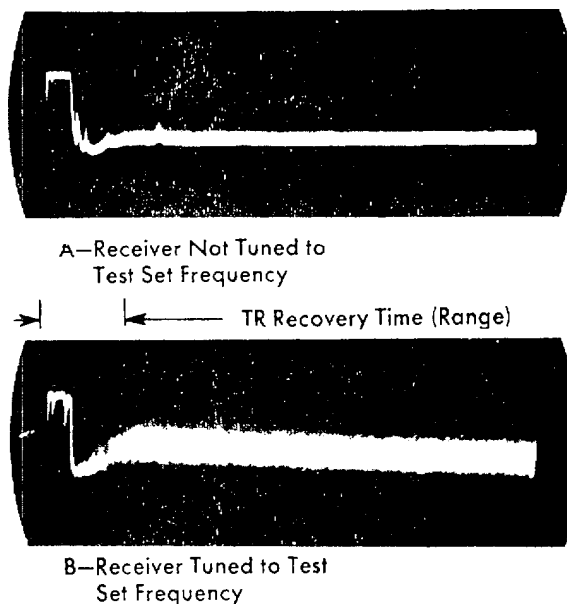

Figure 4-12. Receiver Tuning on CW and Alternate Method of Checking TR Recovery
(1) Tune the test set to the receiver. (See par. 5b.)
(2) If present, the blanking pulse must be made inoperative. (See the radar set instruction book.)
(3) Detune the FREQUENCY meter. Turn the SIGNAL WIDTH knob clockwise to CW while holding the signal in sight with the PHASE knob.
(4) Note the point at which the signal begins to distort and measure TR recovery time as in par. 13a (4) and 13a (5).OR
(5) Perform Test 5, par. 11a (1) through par. 11a (9).
(6) Tune the SIGNAL FREQ knob for maximum signal height (See figure 4-12) keeping the signal below saturation.